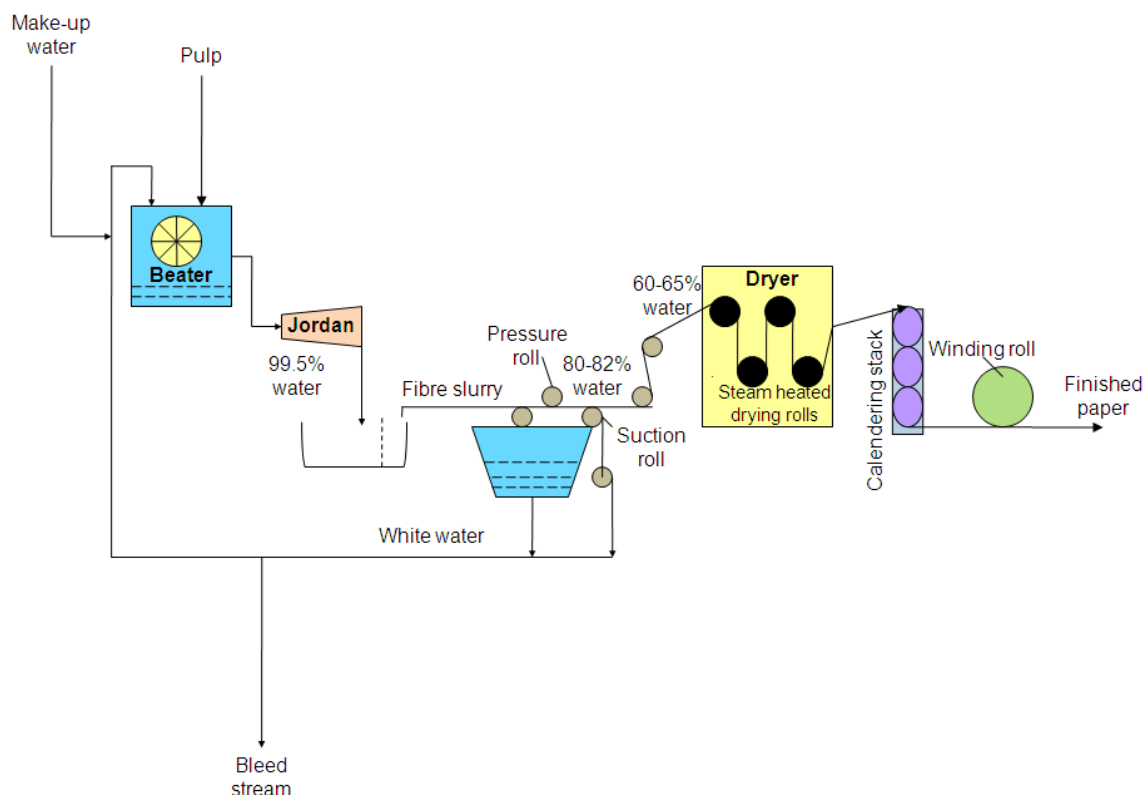

Figure 27.2 Flow sheet of production of paper
27.3 Production of Paper (Figure 27.2)